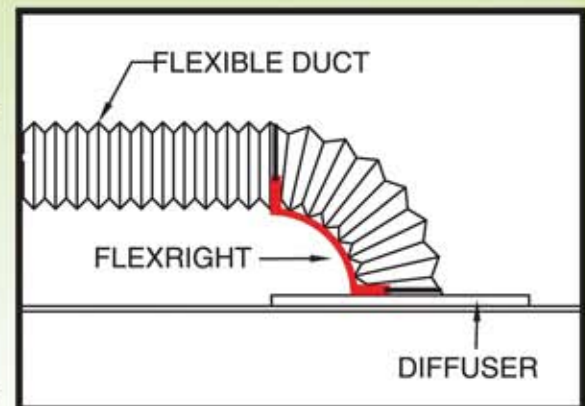

Figure 2
3. Position FlexRight flexible duct elbow under flex duct. (Fig 2) Wrap cable tie #1 around neck of duct fitting. Fasten securely. Keep insulation out from under cable tie.
**Step 3.** Position FlexRight under flexible duct. Cable ties wrap around neck of air device and duct to form 90° elbow. (See Figure 2)